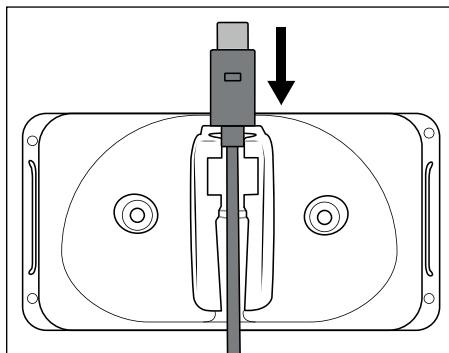
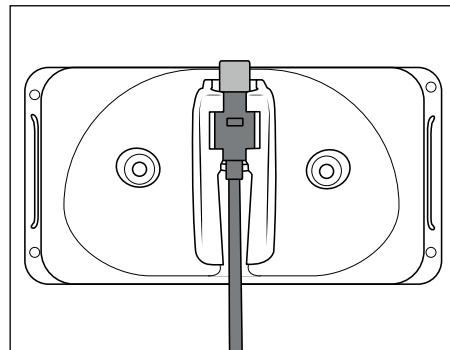

Fig. 1
Fig. 2
- 1) Insert the USB-C plug 5 of the USB charging cable 4 into the wall bracket 3 (see Fig. 1). Push the USB-C plug 5 downwards until the groove on the USB-C plug 5 engages into the clip of the wall bracket 3 (see Fig. 2).